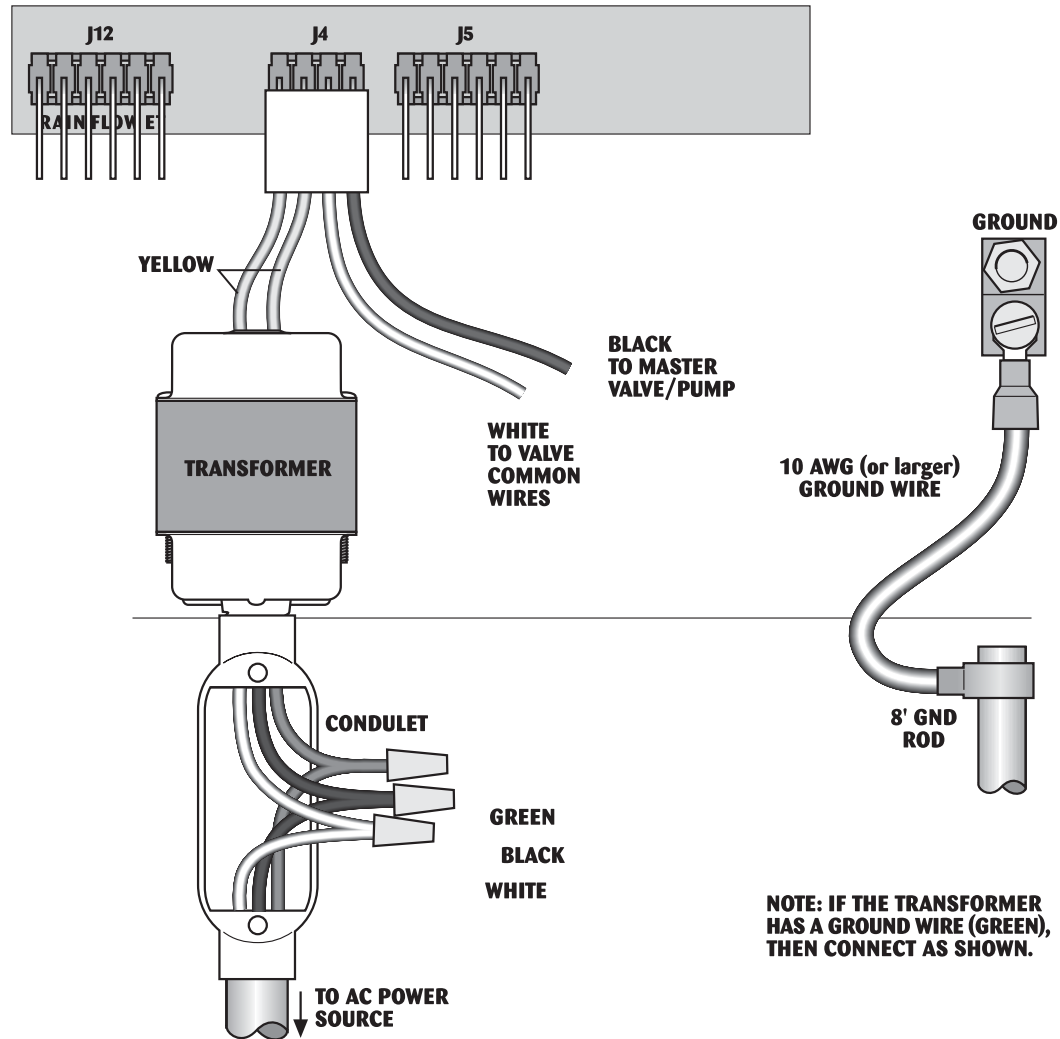

Figure 4 - Power and Grounding Connections
1. Refer to Figure 4 - Power and Grounding Connections.